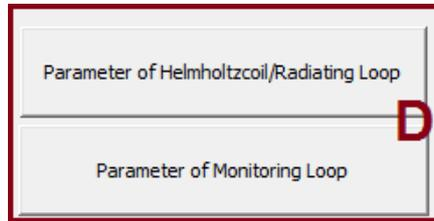
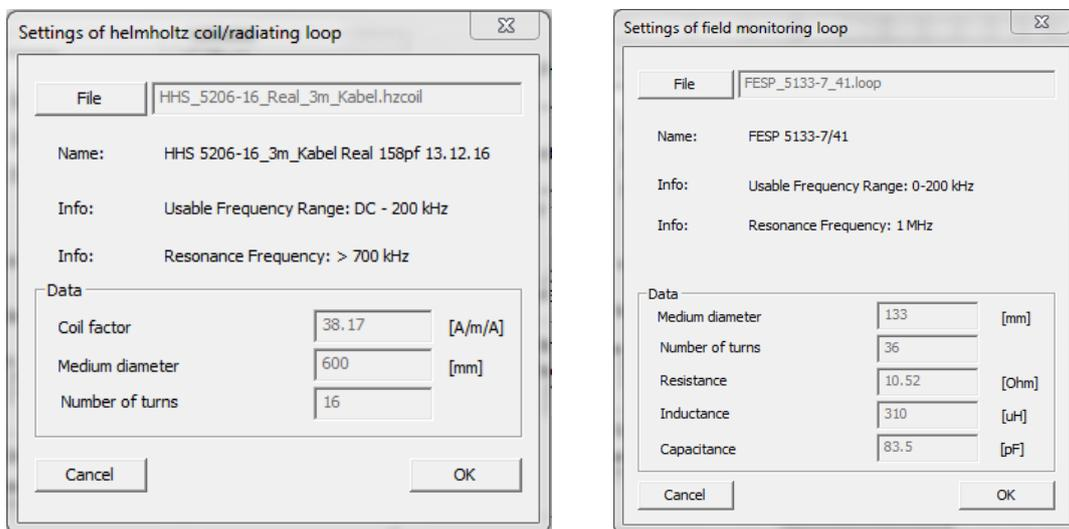

Figure 40: detailed view of Area "D".
Figure 41: the working parameters of the Helmholtz coil (left) and the setup of the working parameters of the monitoring loop (right).
The “Area D” (see a detailed view in Figure 40) is dedicated to the setup of the parameters of the Helmholtz coil / radiating loop and the monitoring loop. As it was explained in paragraph 1.9, the Helmholtz coil / radiating loop and the monitoring loops require the typical data.
- **Helmholtz coil / radiating loop setup:** the parameters can be loaded by clicking on the button “Parameter of Helmholtz coil / radiating loop” (see Figure 40). This will open the window shown in Figure 41, left. It is then possible to select the proper device by opening the
- **monitoring loop:** the parameters can be loaded by clicking on the button “Parameter of monitoring loop” (see Figure 40). This will open the window shown in Figure 41, right. It is then possible to select the proper device by opening the file explorer (typical calibration data are required), by clicking on the “File” button. After the correct file has been selected, it is necessary to click on “OK” to load it in memory and to close the panel.
In the panels shown in Figure 41 it is possible to check the working parameters of the coils, but not to modify them.